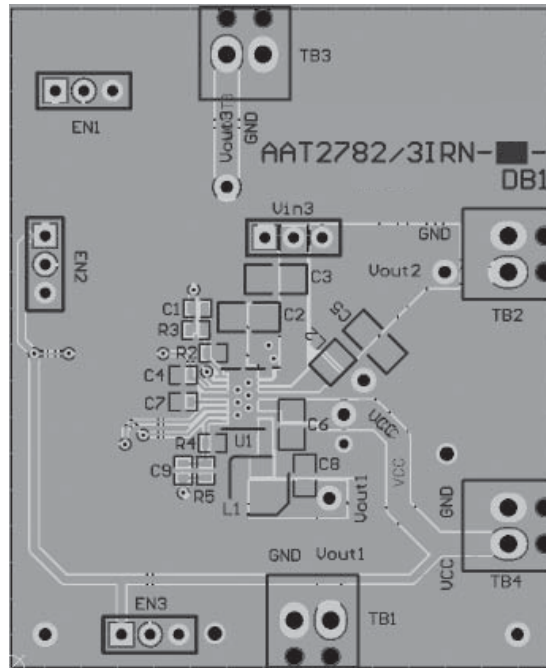

Figure 2: AAT2782 Evaluation Board Component Side Layout.
The term  $\frac{V_O}{V_{IN}} \cdot \left(1 - \frac{V_O}{V_{IN}}\right)$  appears in both the input voltage ripple and input capacitor RMS current equations and is a maximum when  $V_O$  is twice  $V_{IN}$ . This is why the input voltage ripple and the input capacitor RMS current ripple are a maximum at 50% duty cycle. The input capacitor provides a low impedance loop for the edges of pulsed current drawn by the AAT2782. Low ESR/ESL X7R and X5R ceramic capacitors are ideal for this function. To minimize stray inductance, the capacitor should be placed as closely as possible to the IC. This keeps the high frequency content of the input current localized, minimizing EMI and input voltage ripple. The proper placement of the input capacitor (C1) can be seen in the evaluation board layout in the Layout section of this datasheet (see Figure 2). A laboratory test set-up typically consists of two long wires running from the bench power supply to the evaluation board input voltage pins. The inductance of these wires, along with the low-ESR ceramic input capacitor, can create a high Q network that may affect converter performance. This problem often becomes apparent in the form of excessive ringing in the output voltage during load transients. Errors in the loop phase and gain measurements can also result. Since the inductance of a short PCB trace feeding the input voltage is significantly lower than the power leads from the bench power supply, most applications do not exhibit this problem. In applications where the input power source lead inductance cannot be reduced to a level that does
The suggested PCB layout for the AAT2782 is shown in Figures 2 and 3. The following guidelines should be used to help ensure a proper layout.
1. The power input capacitors (C6) should be connected as closely as possible to VP1 and VP2, The LDO input capacitor (C3) should be close to VIN3 as shown in Figure 2. Due to the pin placement of VP1, VP2 and VIN3 for all converters, proper decoupling is not possible with just one input capacitor.